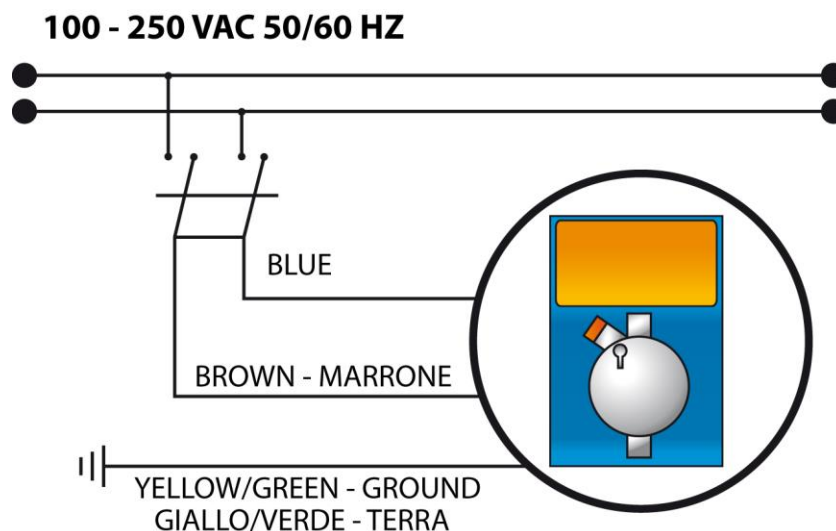

Fig.3 – Electrical scheme
- Make sure the pump is electrically deactivated (both poles) by disconnecting the conductors from the power supply using the omnipolar switch which must have a minimum distance of 3mm between its contacts (Fig.3).